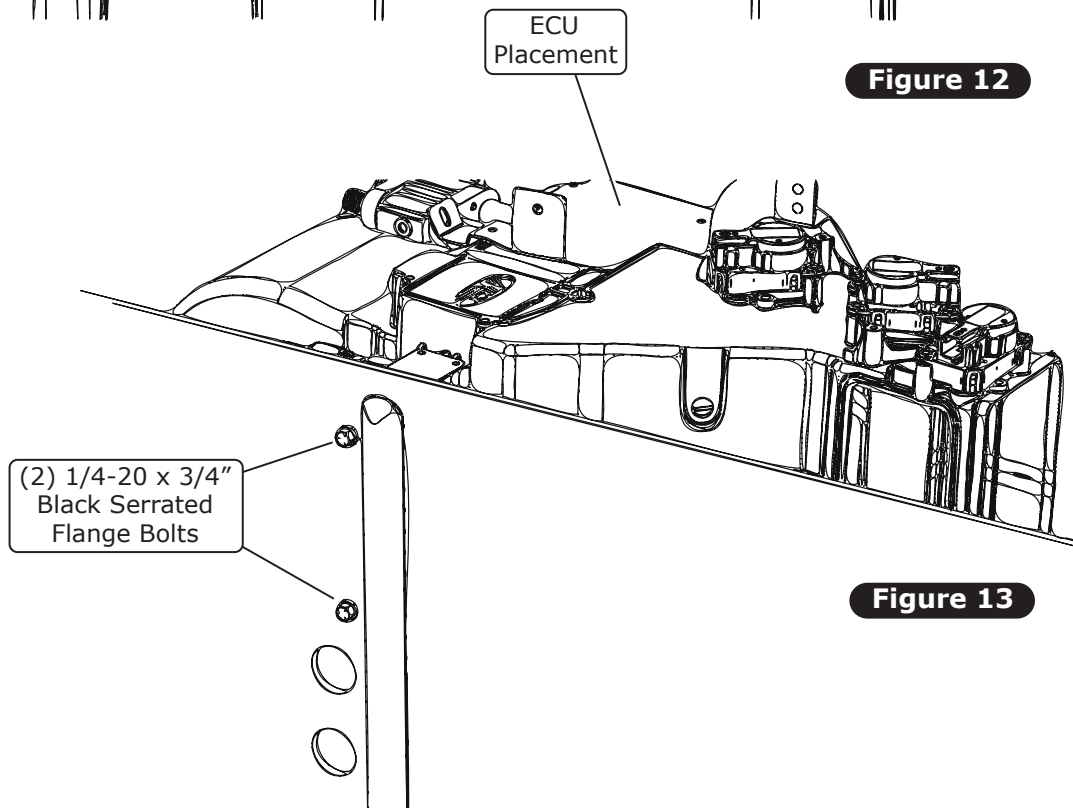

Figure 13
13. From the engine compartment firewall side, remove the full-threaded studs one at a time, and install the (2) supplied 1/4-20 x 3/4" black serrated flange bolts in their place (See Figure 13, below).